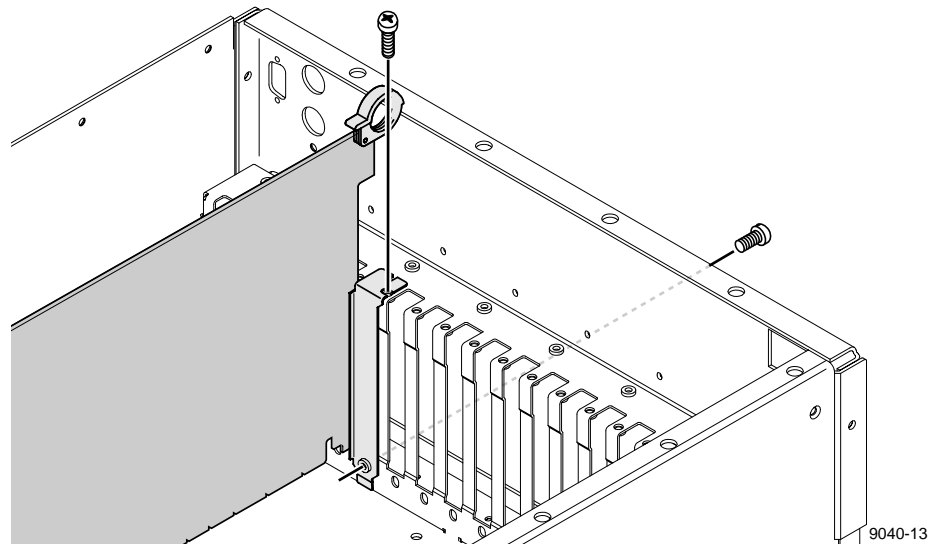

Figure 11. Typical Removal of a Full Size Board
1. Use the Torx tool with the T15 tip to remove the screws which secure each board to the rear panel (see Figure 11 for an example).